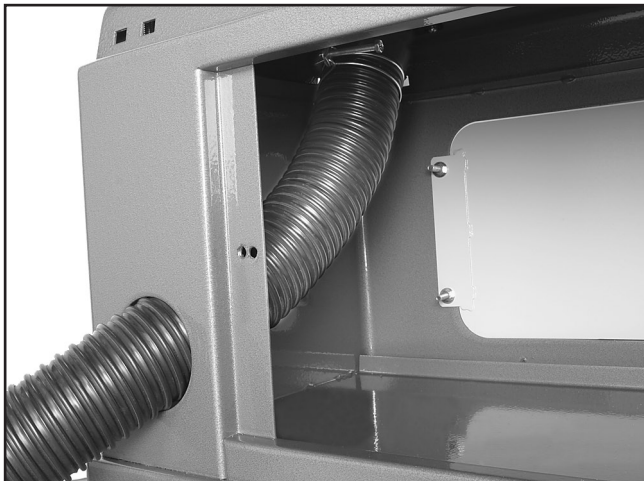

Figure 18. Dust hose attached to dust port.
1. Fit the 2½" dust hose over the dust port, as shown in **Figure 18**, and secure in place with a hose clamp.